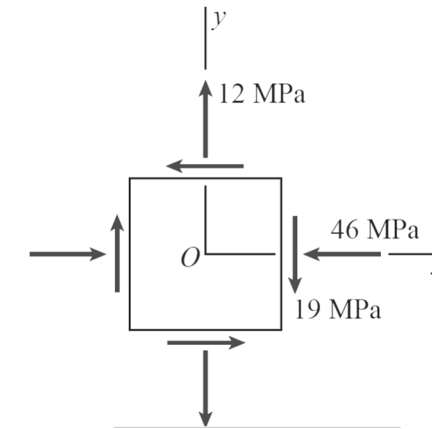

Fig 1
- ii. A plane-stress condition exists at a point on the surface of a loaded structure, where the stresses have the magnitudes and directions shown on the stress element of Fig. 1. Determine the normal & tangential stresses acting on an element that is oriented at a clockwise angle of  $15^\circ$  with respect to the original element. **6**